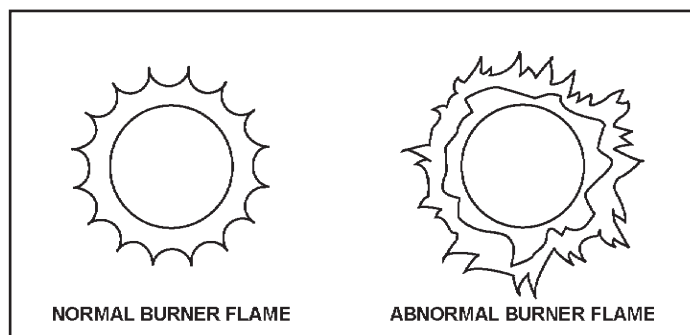

FIGURE 21. BURNER FLAMES
This is a pre-mix burner system. The flame is not supposed to be directly on the burner. The flame should be just above the burner deck approximately 1/8" and blue in color, see Figure 21.
Visually check flame characteristics through the view port located on the top head of the boiler. Figure 21 shows the normal flame condition.
- Cause no excessive lifting of flame from burner ports, see Figure 21.